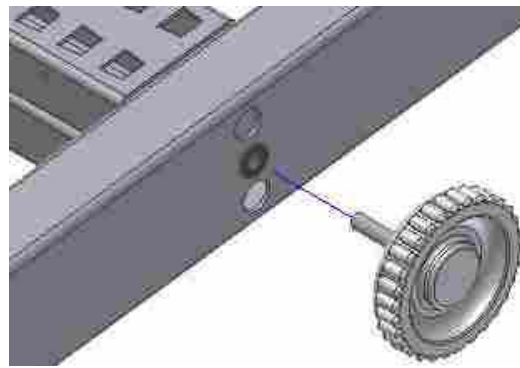

Fig 21
STEP 2 – Screw the **leveller** to the rivet of the **bottom bar** (Fig. 21)